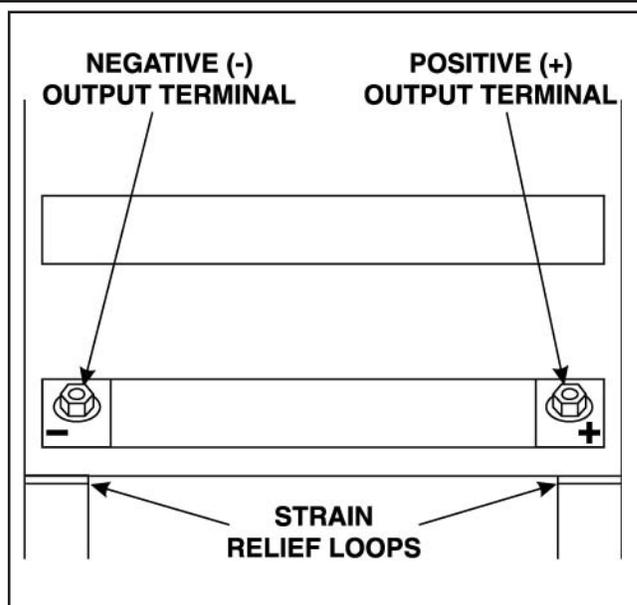

FIGURE A.9 - Output Terminals.
2. Locate the retractable strain relief loops directly below the output terminals in the lower right and lower left corners of the Case Front Assembly. See Figure A.9.